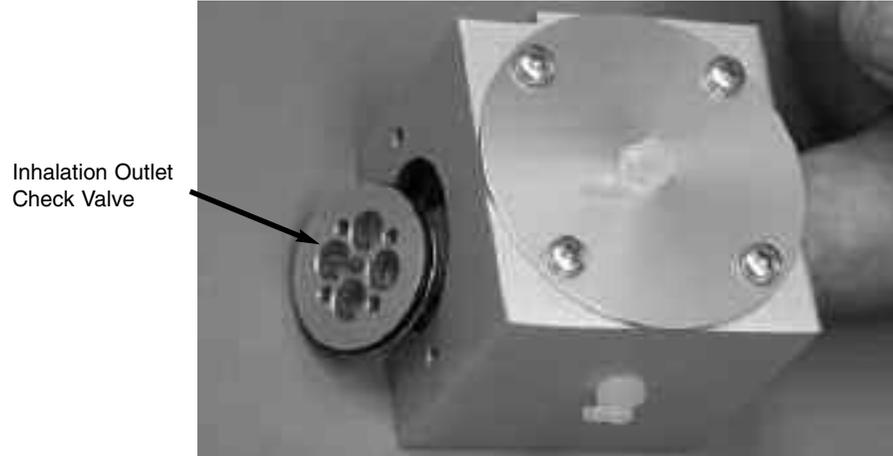

Figure 2-9 Inhalation Outlet Check Valve
- 3** Insert finger and push out the Inhalation Outlet Check Valve, see Figure 2-9.